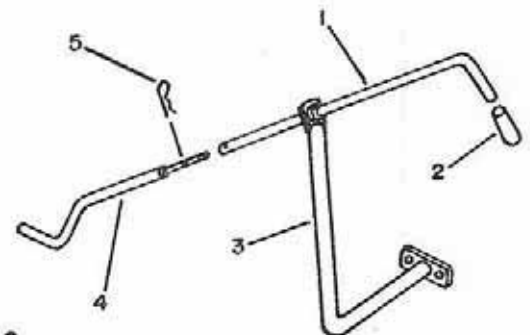

FIGURE 16
- g) Install 1/2 X 3" handle grip (fig. 16, item 2) on angle handle (item 1).
- h) Insert handle through the grommet on support (fig. 16, item 3) and insert on handle extension (item 4). Secure with 2.5mm hair pin (item 5).
- b) Install 1/2 X 3" handle grip (fig. 16, item 2) on angle handle (item 1).
- c) Insert handle through a grommet on the support (fig. 16, item 3) and insert on handle extension (item 4). Secure with 2.5mm hair pin.